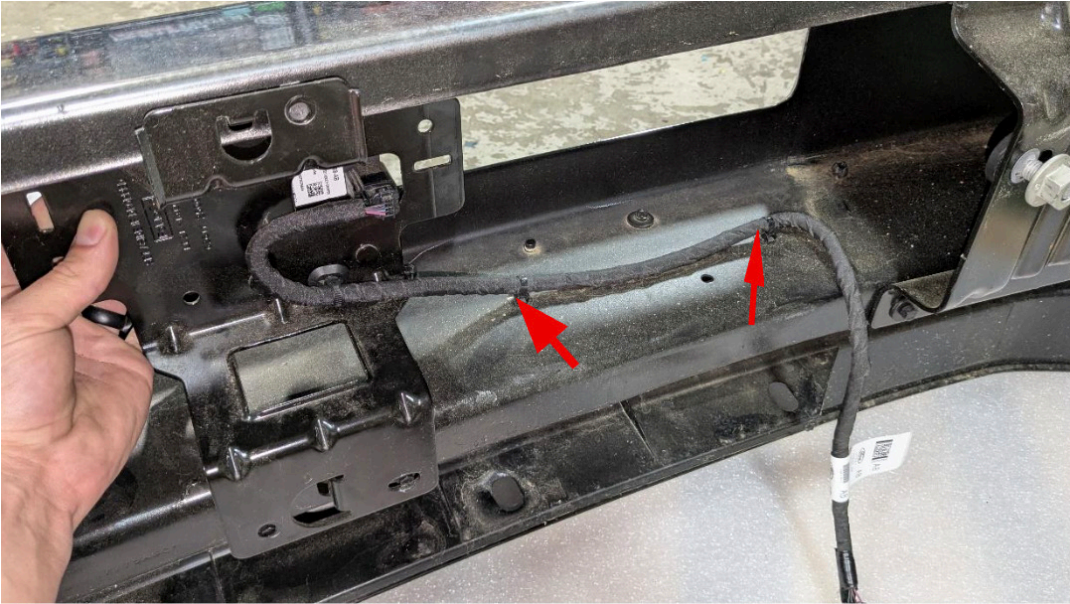

Figure 9
8. Using a panel pry tool, remove the two (2) push pins attaching the sensor wiring harness to the bumper. Figure 9